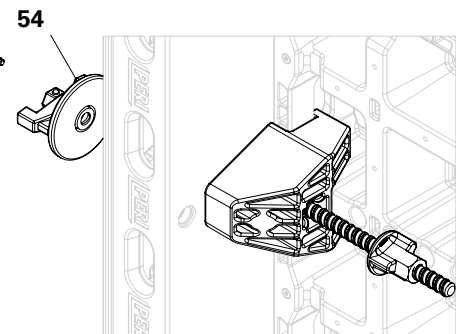

Fig. B5.15b
4. Insert the steel pin (23.4) of the DUO corner connector into the appropriate tie point (10.1) of the DMP multi panel (12). (Fig. B5.15b)
5. Push the DUO corner tie (23.2) through the DUO corner connector (23.1) and the DMP multi panel (12). (Fig. B5.15b)